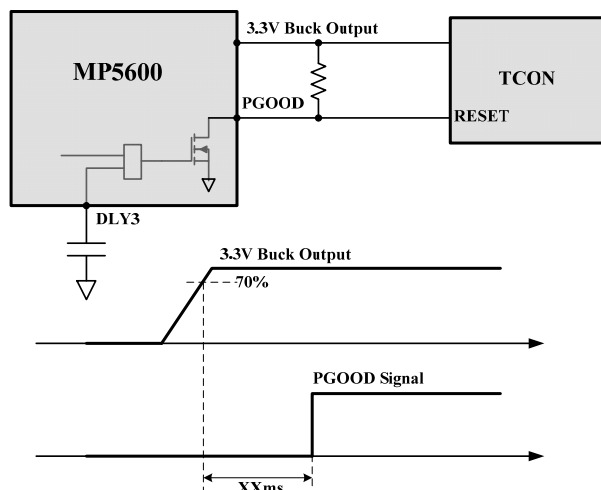

Figure 10—Open Drain Output of Power Good Signal
- Once the buck regulator reaches 70% regulated value, the power good signal will be sent to indicate that the buck regulator is ready with some delay time programmed by the capacitance on DLY3 pin. See figure 10.